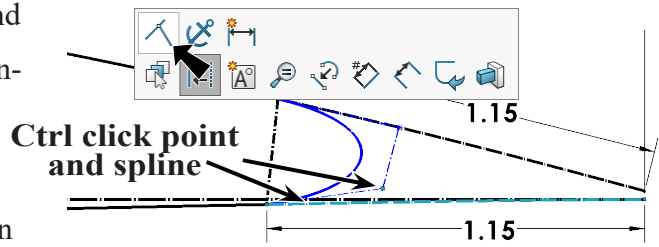

Fig. 38
Step 26. **Ctrl click bottom control vertex point and bottom construction geometry of trim** to select both. Release Ctrl key and click **Make Coincident**  on the context toolbar, **Fig. 38**.